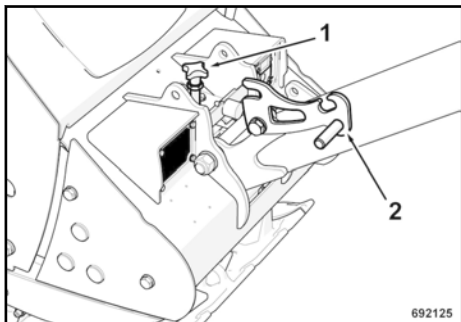

Fig. 14
Pull the locking pawl lever (2) ↖ Fig. 14 and lower the steering rod, so that it can swing freely.